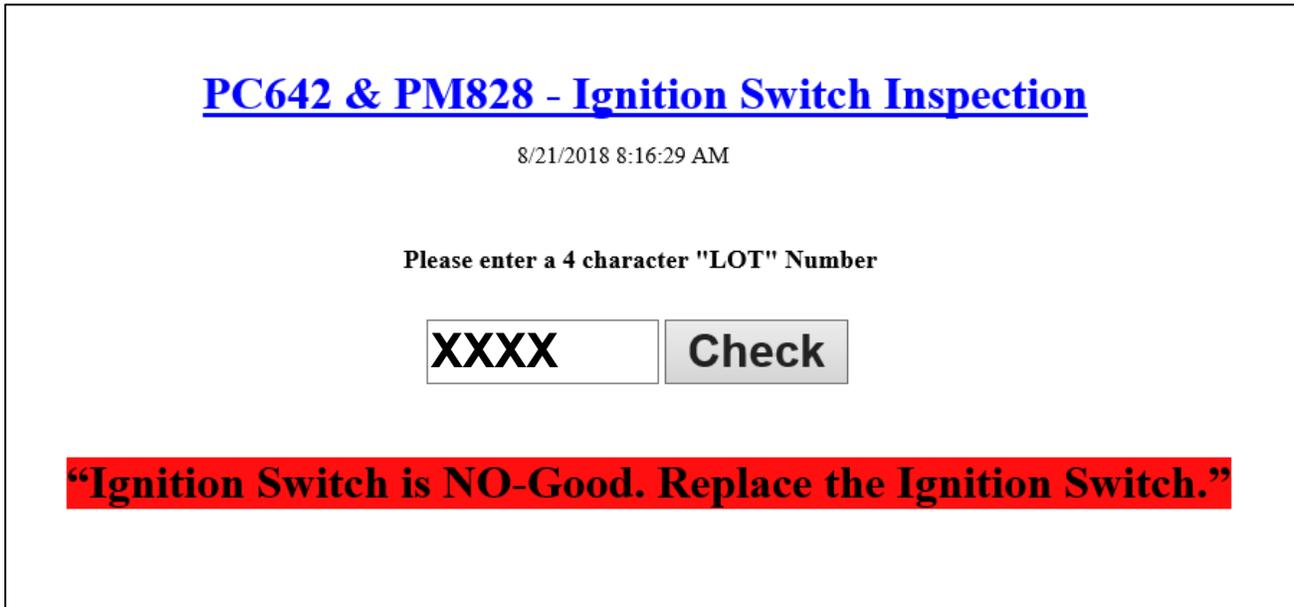

Figure 59
8. If the ignition switch is **NO-GOOD** as shown in Figure 59, **REPLACE** the ignition switch.